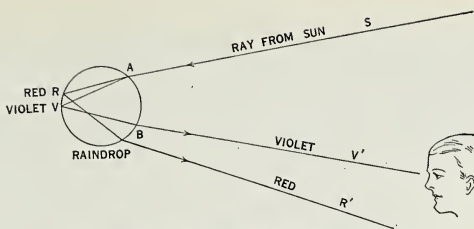

Fig. 266. The cause of the rainbow.
**The rainbow.** In Figure 266 *S* represents a ray of white light coming from the sun, low on the horizon. To the east rain is falling. One of the raindrops, enlarged, is shown by the circle.